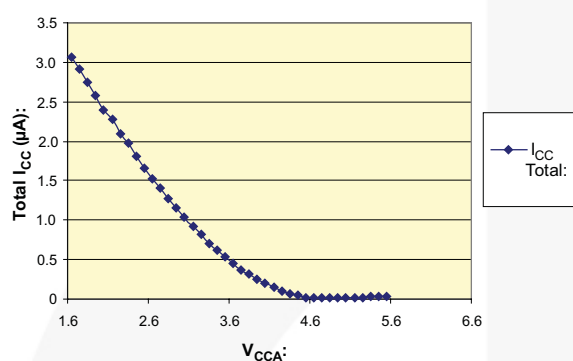
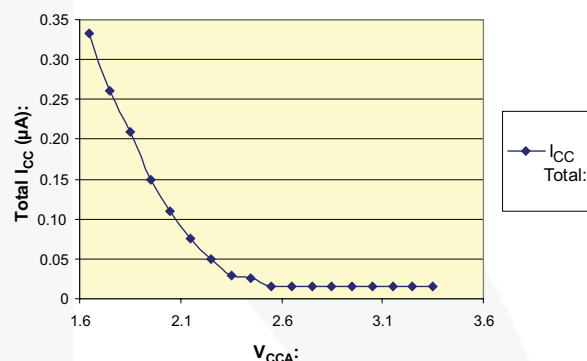

Figure 4. FXM2IC102 I_{CC} vs. V_{CCA} Sweep During no I²C Data Transactions (V_{CCB} = 5.5V. T_A = +25°C)
Figure 5. FXM2IC102 I_{CC} vs. V_{CCA} Sweep During no I²C Data Transactions (V_{CCB} = 3.3V. T_A = +25°C)
The FXM2IC102 typically consumes only 230nA during "no I²C data transactions" when V_{CCA} = 1.8V and V_{CCB} = 3.3V. See Figure 4 and Figure 5 for more details.
In a typical Mobile Internet Device (MID) application, I²C data transactions are idle the vast majority of the time. Therefore, it is critical that the I²C translator burns as little current as possible when no data transactions are passing across the I²C bus. Figure 4 and Figure 5 plot the typical FXM2IC102 I_{CC} performance across the entire voltage translation range during no I²C data
transactions. In Figure 4, V_{CCB} = 5.5V and in Figure 5, V_{CCB} = 3.3V.
For example, to translate from 1.8V to 3.3V (Figure 5), with no I²C data transactions present, the total I_{CC} of the FXM2IC102 is typically only 230nA. In effect, the FXM2IC102 virtually powers itself down when the I²C bus is idle.
- Figure 4 depicts the typical I_{CC} of the FXM2IC102 when translating from 5.5V on the V_{CCB} supply to a range of 1.65V – 5.5V on the V_{CCA} supply.
- Figure 5 depicts the typical I_{CC} of the FXM2IC102 when translating from 3.3V on the V_{CCB} supply to a range of 1.65V – 3.3V on the V_{CCA} supply.